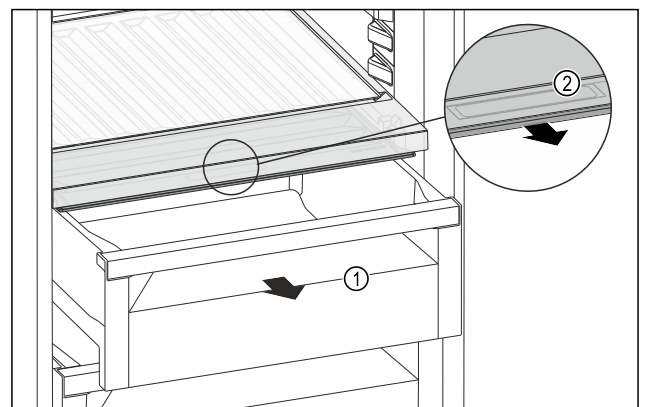

Fig. 148
- Pull out the drawer Fig. 148 (1).
- Grasp the recessed grip Fig. 148 (2) on the compartment lid and pull the compartment lid forwards at the same time.